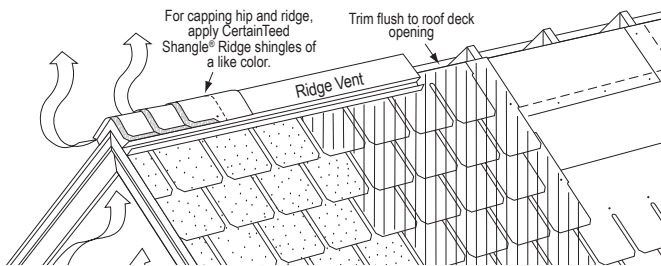

Figure 16-17: Installation of Shingle Ridge shingles on ridge vent.
8. If shingle-over ridge vents are being installed (see Figure 16-17), they must match the 12" (305 mm) width dimensions of the hip and ridge caps. Be sure to follow the ridge vent manufacturer's instructions. To attach the cap shingles to the shingle-over ridge vent, use hot-dipped galvanized nails of sufficient length to penetrate $\frac{3}{4}$ " (19 mm) into, or through, the deck.